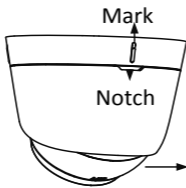

Figure 2. 7 Disassemble the Camera
1. Disassemble the turret camera by rotating the camera to align the notch to one of the marks, as shown in Figure 2. 1.